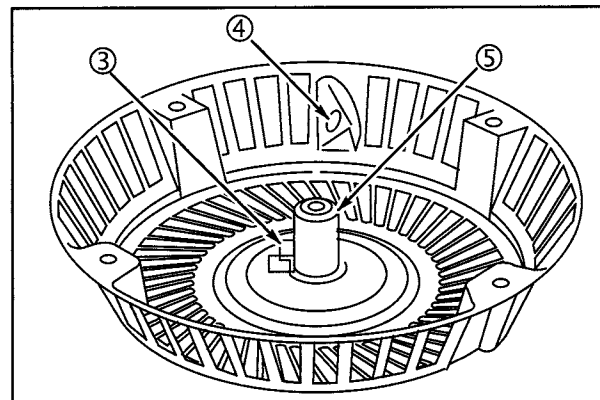

Fig. 59
Inspect starter housing for wear or sharp edges at rope eyelet (4), center pivot post (5), and inner spring anchor (3) tab, **Fig. 59**. Replace housing if worn or damaged.